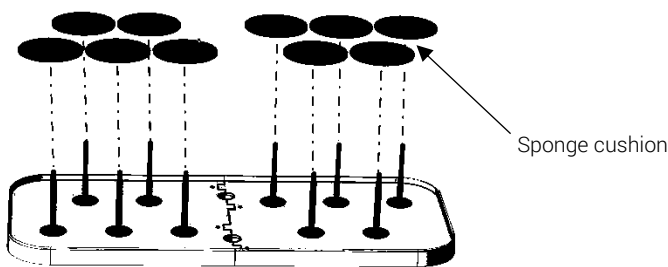

Figure 19
15. Place the sponge cushions on top of all ten thread pins, then push them through to the end. See Figure 19.